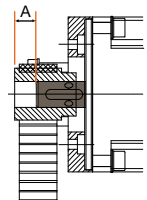

Figure 23:
- ◆ Fit toothed pulley and set dimension "A". (please refer to Figure 23. Dimension "A" is provided by Parker. If the drive was exchanged, please set the dimension "A" noted before.